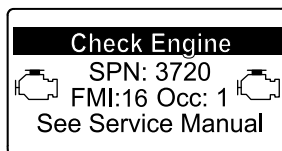

Figure 52
- Engine warning SPN 3720, FMI 16 (Figure 52)